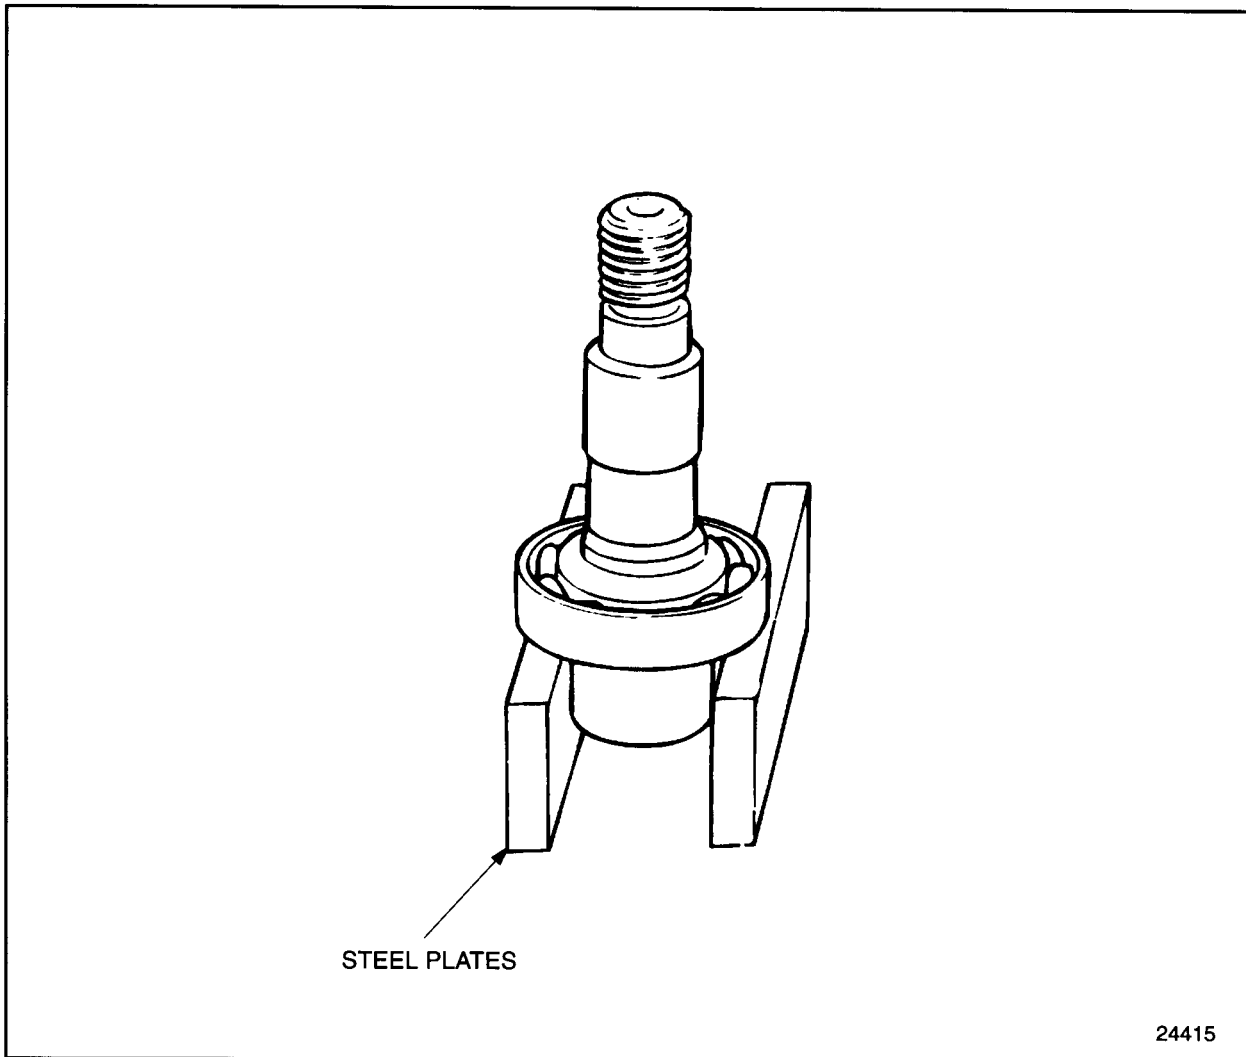

Figure 1-394 Ball Bearing Removal
17. Position two steel press plates under the ball bearing outer race. See Figure 1-394.